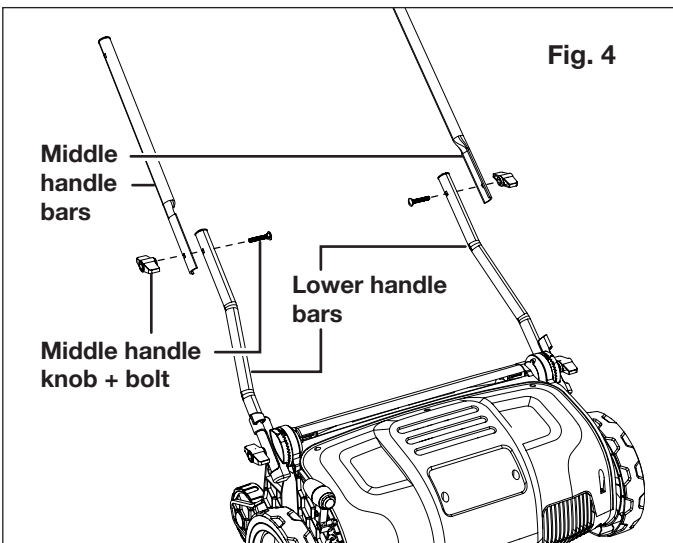

Fig. 4
3. Secure the two middle handle bars to the lower handle bars using a set of knobs and bolts. Tighten the knob on each side to ensure a secure fit (Fig. 4).